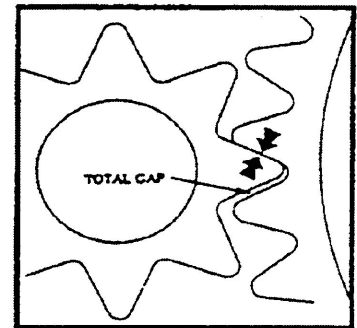

Figure 5
3. Using a feeler gauge, measure the gap between the gear teeth. This is the gear lash. If the clearance is less than .2 mm (.008 inches), or greater than .8mm (.031 inches), then the gear lash is in need of adjustment. (See Figure 5.)